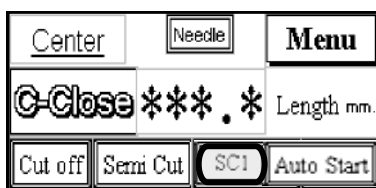

Figure 28
11.1 Setting from Home page. Press **SC1** (See Figure 28)